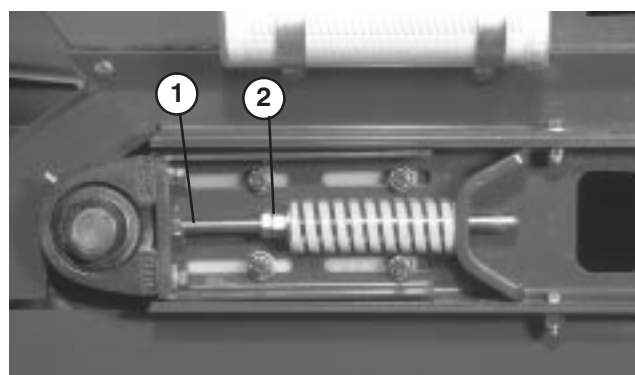

Figure 4
3. Loosen jam nuts and nuts on tension rod to release spring tension (Fig. 4).